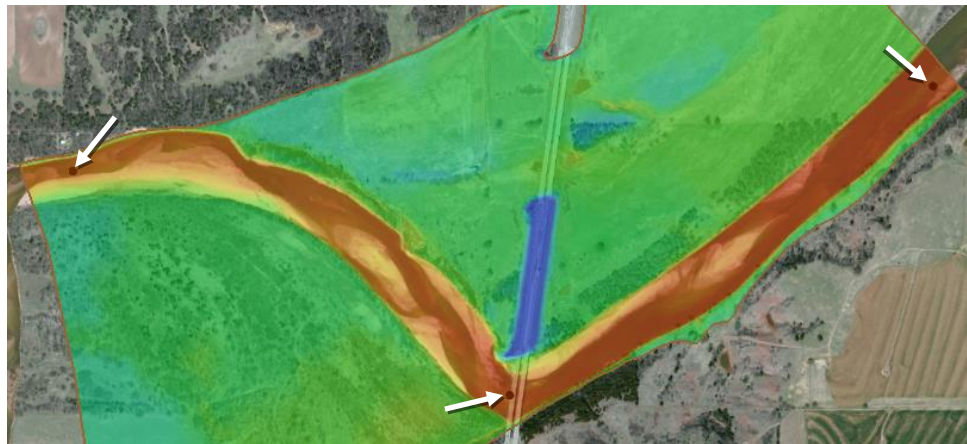

Figure 3 Monitor points at upstream, midway between, and downstream
5. Using the **Create Feature Point**  tool, create three monitor points as shown Figure 3.